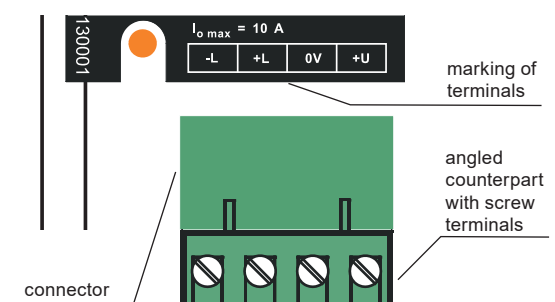

Fig. 4: Detailed view of screw terminals
- Connect counterpart with screw terminals to the connector on the sensor (see Fig. 4). (This terminal block is included in standard accessories either as straight or angled variant.)